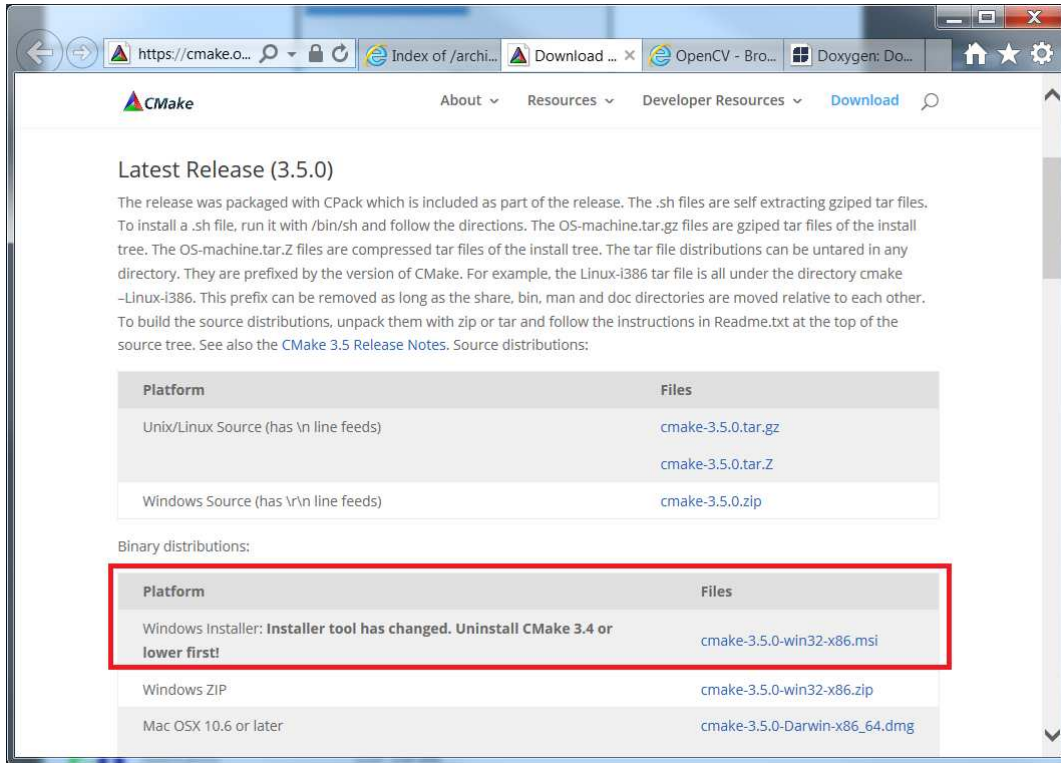

Figure 15. CMake Website
1. Download CMake from the link in Section 1. Select the Windows installer as shown in Figure 15.